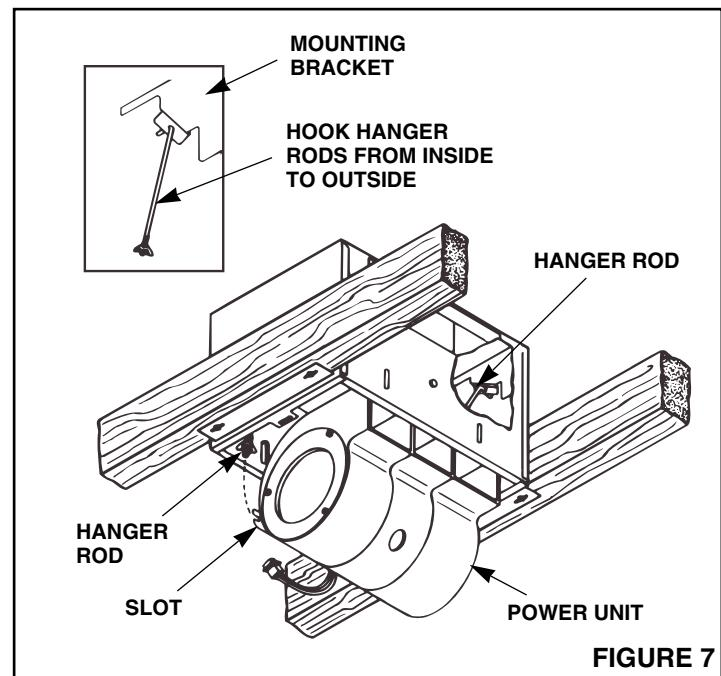

FIGURE 7
1. Refer to Figure 7. The power unit mounts with two hanger rods to the mounting brackets. Insert the hanger rods through the holes in the mounting bracket hooking them from the inside to the outside.
3. Plug the three (3) wire connectors from the junction box into the wire receptacle connector from the power unit making sure the plug is properly aligned.